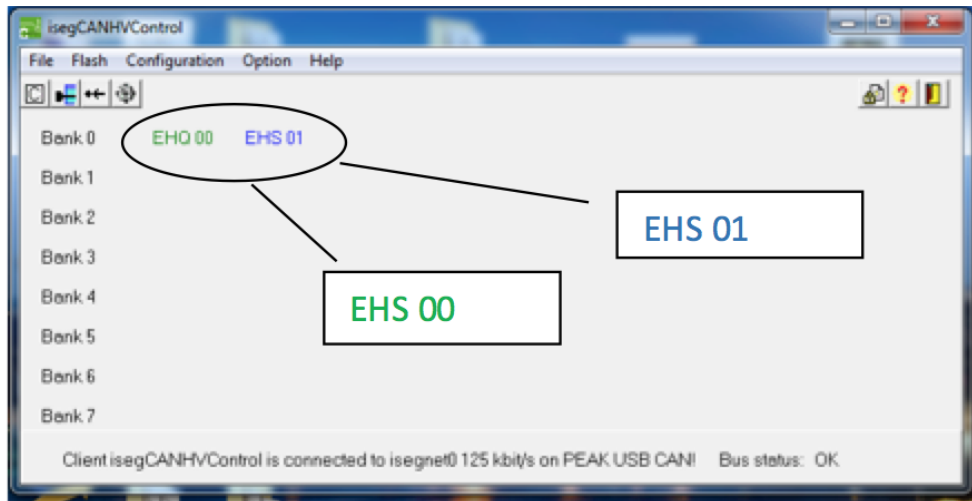

Figure 13c. The controller cards may be the EHS or EHQ model and are labeled accordingly.
4. On *isegCANNHVControl* window (Figure 13c), review that **EHQ 00** and **EHS 01** labels appear.
9. On **isegCANNHVControl** window (*Figure 13c*), confirm that **EHQ 00** and **EHS 01** labels appear.